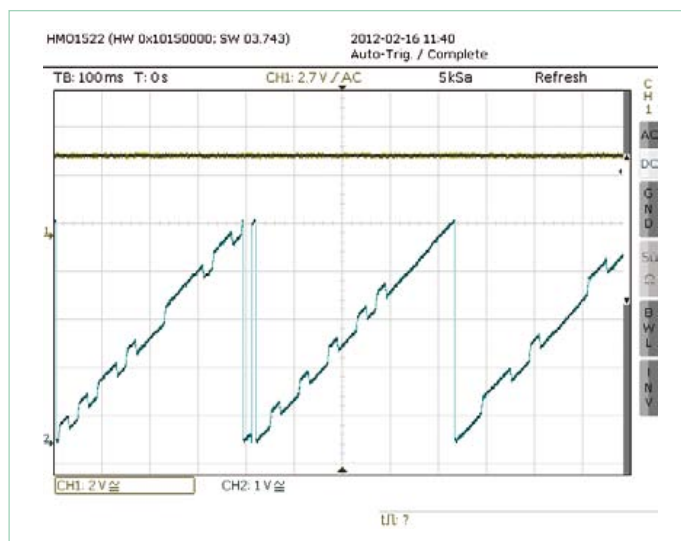

Figure 12. Pure phase modulation: amplitude shown in yellow, phase in blue.
**Figure 12** shows the result. The phase switches constantly between the two values that represent zero and one. Superimposed on this is a small drift due to the frequency error. The amplitude (yellow curve) is constant.